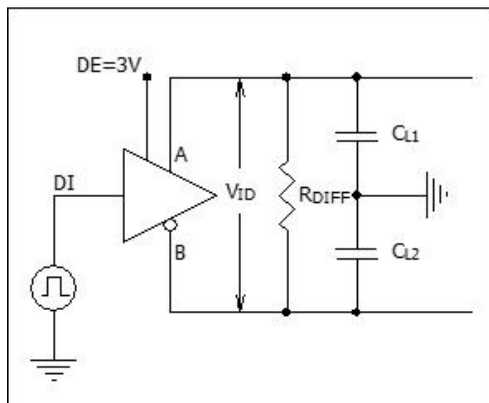

Figure 3 Driver Timing Test Circuit
- (3) Test circuit is shown in Figure 3